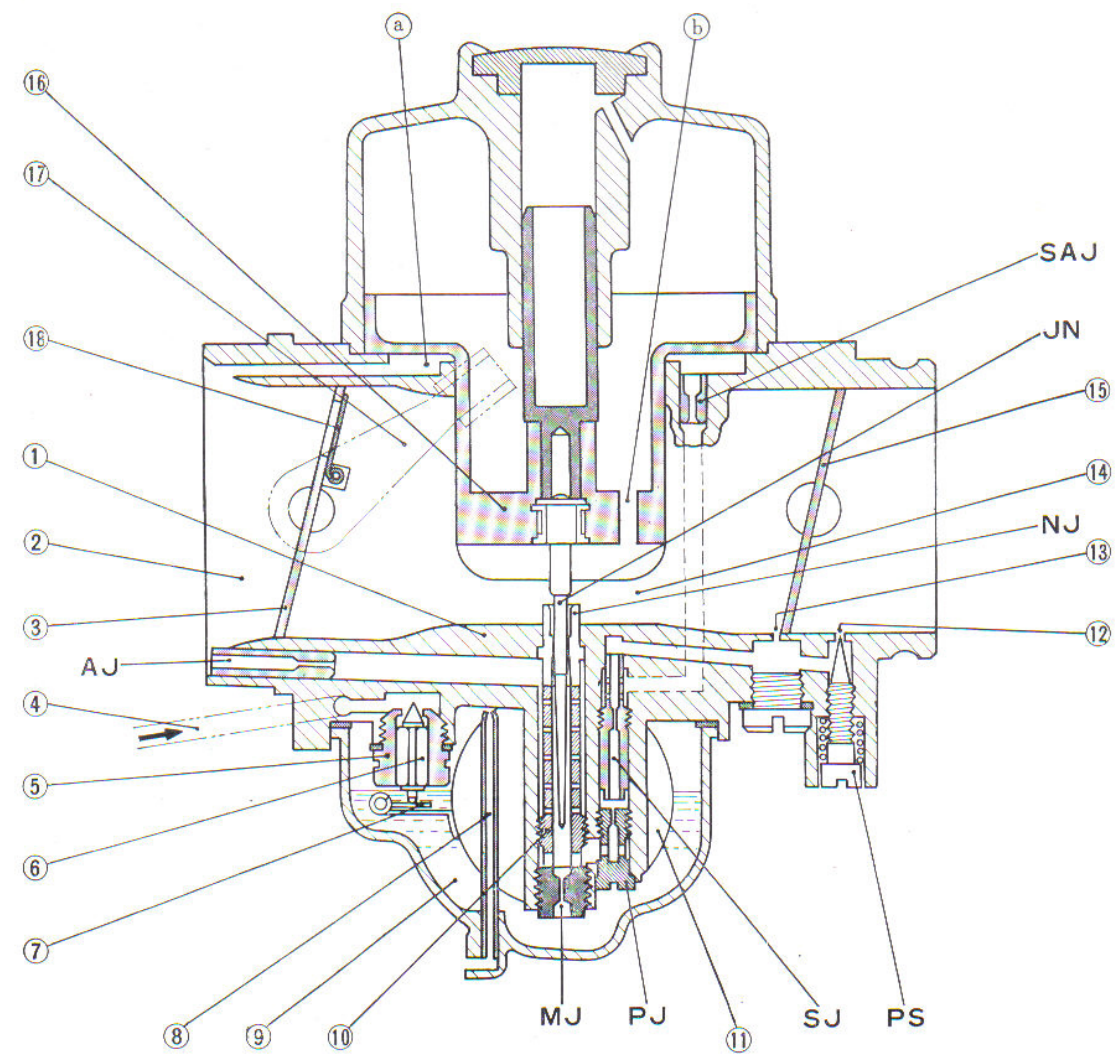
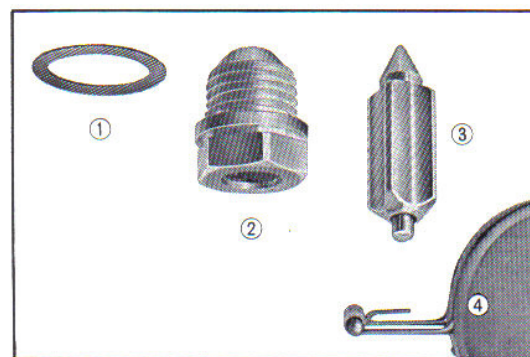

Fig. 3.123 Sectional view of carburetor
Fig. 3.127
Further, the engine speed is raised at high speed, the vacuum piston (16) rises up to the top at least, and forms the secondary venturi sectional surface which is sufficient to maintain the maximum output. (Fig. 3.123)
The fuel coming from the fuel tank enters into the float chamber through passage from the fuel tank, float valve seat, and float valve. The float (11) is floated up accordingly with the fuel entry, float valve (6) is lifted by the float arm (7), and when the float valve (6) contacts the float valve seat (5), the fuel inside the float chamber (9) is used, and the fuel level is lowered, the float (11) is also lowered accordingly, the float valve (6) leaves the float valve seat (5); thus, the fuel enters into the float chamber (6). By repeating these operations, a constant fuel level can be maintained. The portion of float valve (6) which contacts float arm (7) is provided with spring to increase the durability against vibration (Fig. 3.127). Further, when the motorcycle is inclined or foreign matter sticks to the float valve seat, fuel overflows, and the fuel enters the cylinder; thus, the overflow line (8) has been provided to maintain the specific fuel level. When the fuel level reaches a specific level, the overflow line permits the fuel to be discharged. (Fig. 3.123)